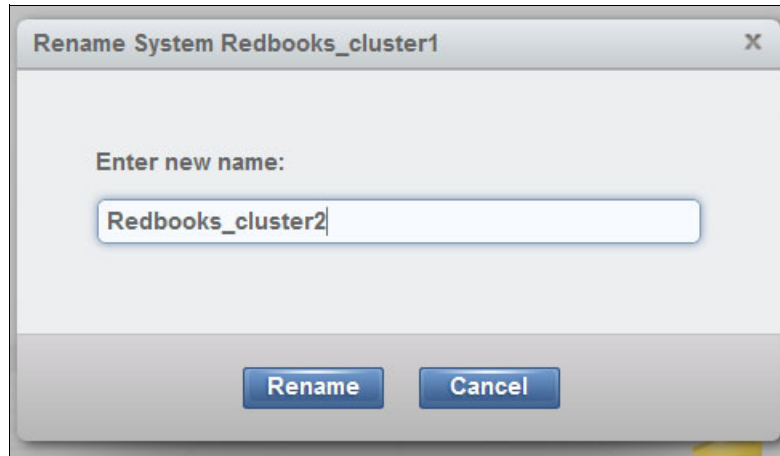

Figure 15-9 Renaming the system
- d. Enter a name for the system in the window that opens and click **Rename**, as shown in Figure 15-9.